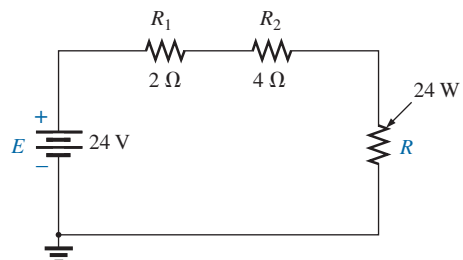

FIG. 5.100
- For the conditions specified in Fig. 5.100, determine the unknown resistance.